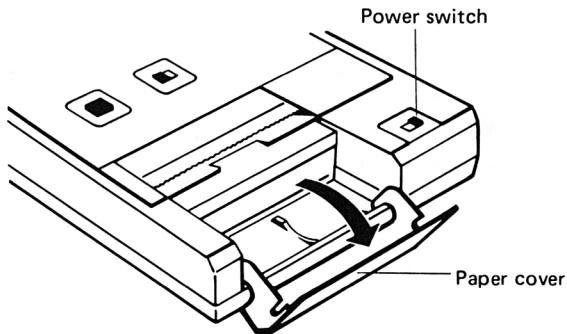

Fig. 1
- (1) Turn off the power switch.
- (2) Open the paper cover. (Fig. 1)